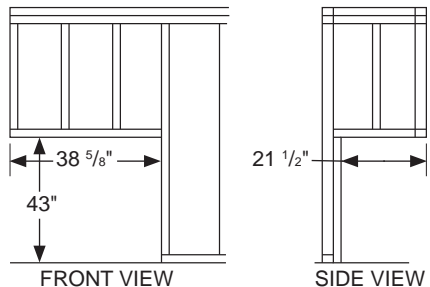

Figure 2 - Framing Dimensions
1. Frame opening for fireplace using dimensions shown in Figures 2 and 3.